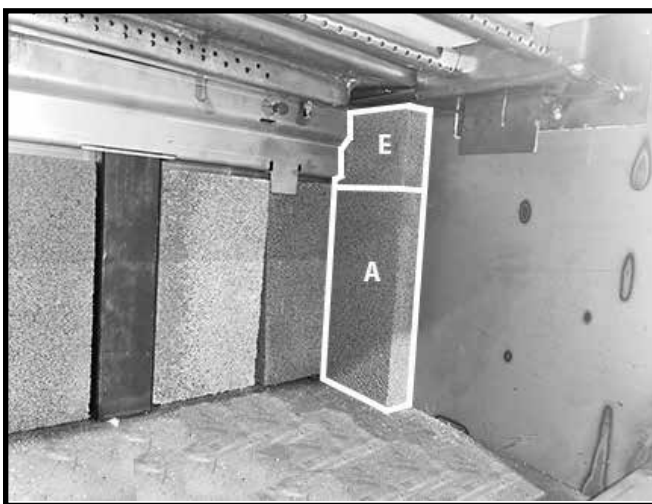

Figure 27: Right side wall E and A brick placement.
3. On one of the side walls, place the "E" brick up into the back corner against the sidewall then insert the "A" brick underneath while holding the "E" brick in place (Figure 27).